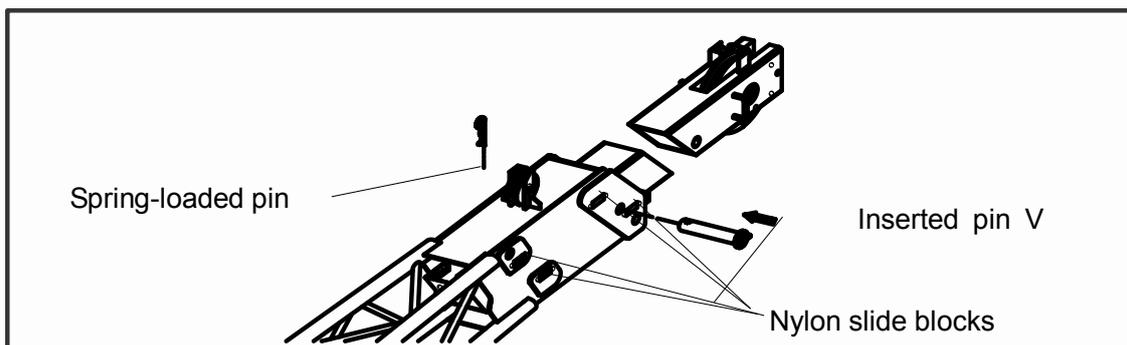

Fig.05-10
- k) Unfold the jib section 2 till it touches its retainer, and align it with pin holes. Pin the inserted pin V and spring-loaded pins. See Fig.05-10;